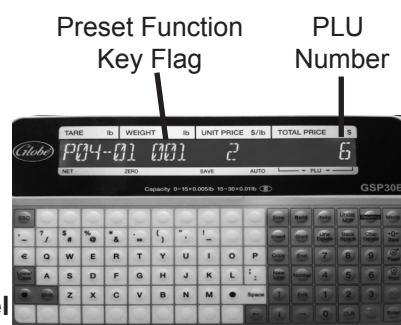

Figure 12-3
8. Key in PLU number and press the desired preset key. See Figure 12-3.